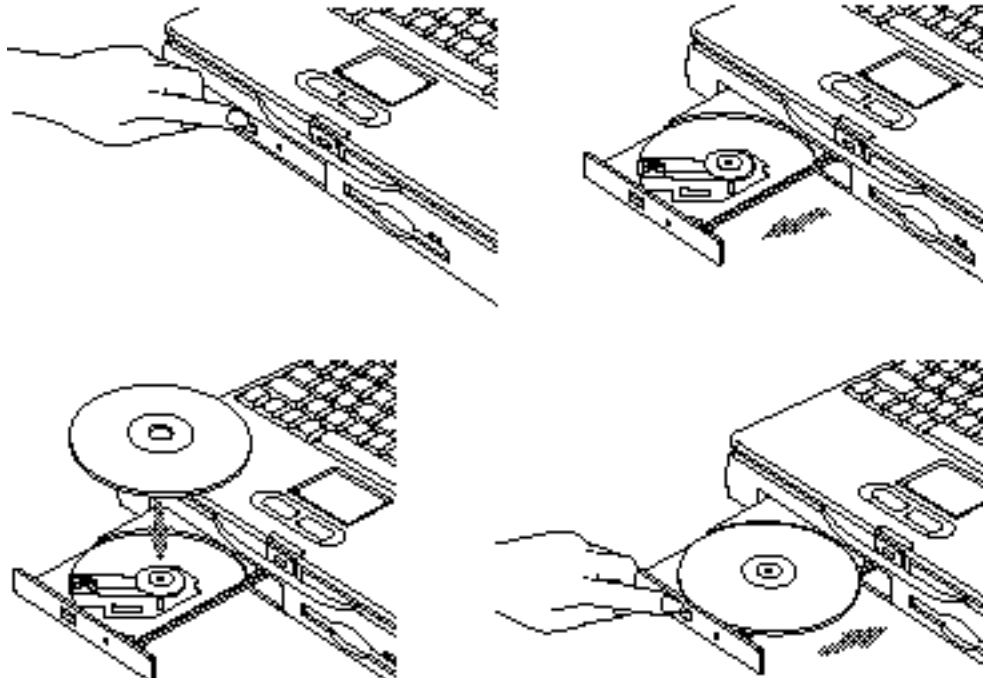

Figure 2-12 Loading/Ejecting a CD-ROM
- **Push and release the eject button on the front of the CD-ROM drive to open the holder tray, the tray will come out a short distance. (Figure 2-12.)**